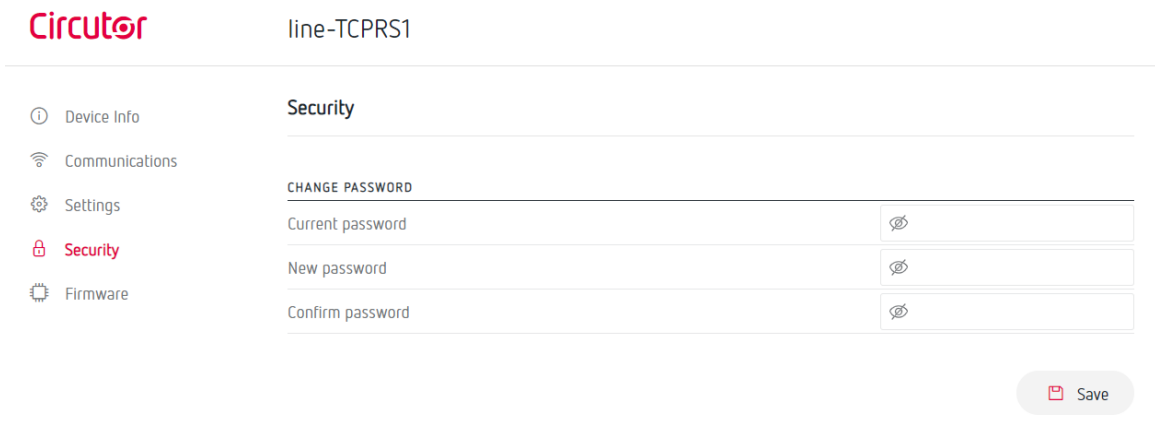

Figure 40: Website: Security.
**Note:** For security reasons, you need to change the login password. You can change it on the Security screen, **Figure 40**.
- ✓ On the **Security** screen (Figure 40), change the login password to the configuration website.